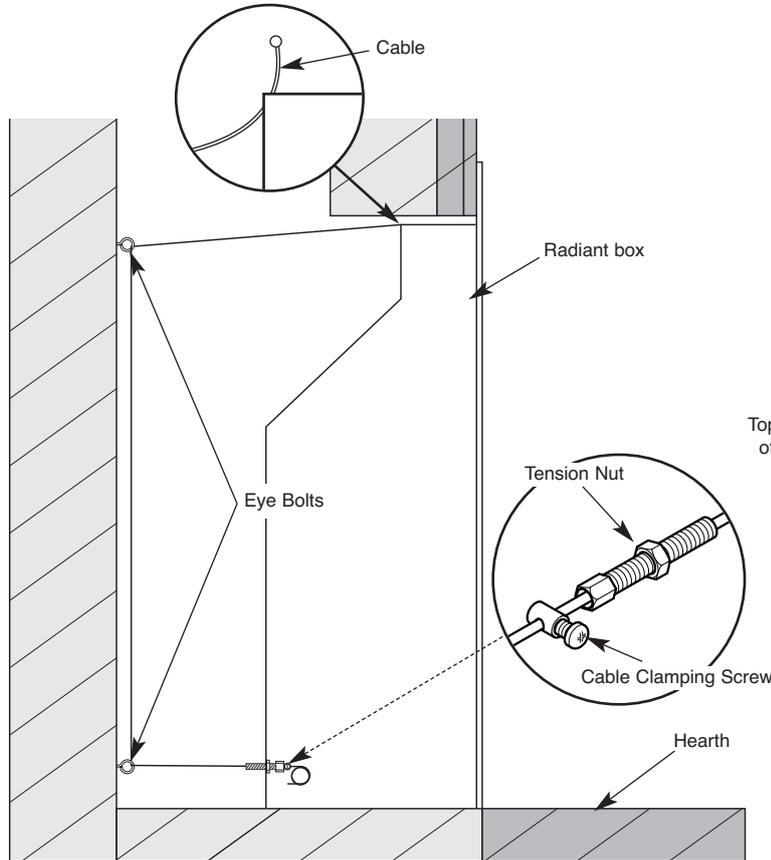

Fig. 6
6. With the radiant box placed in the opening, mark out four of the eight fixing holes. Remove the box and carefully drill and fit rawl plugs or alternatively use the cable fixing method (Fig. 6, Page 7).
Fix the radiant box into the opening, securing into position using the cable fixing kit (Fig. 6). Do not cut off the loose ends as the full length is required should the radiant box need refitting at any time. Coil up and securely store underneath the burner tray.